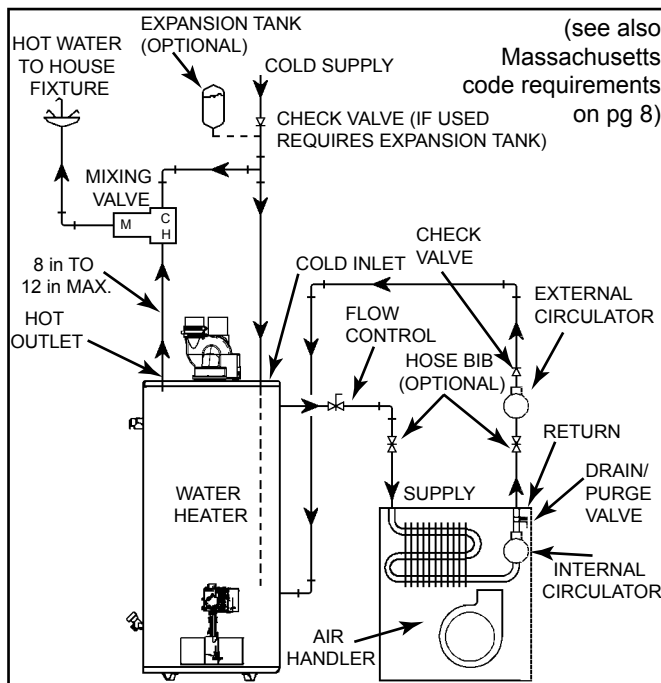

Figure 22
8. “Combo” Heating Systems require higher water temperatures than other applications. When the system is used to supply water for Combo Heating applications, a means, such as mixing valve, must be installed to temper the water in order to reduce scald hazard potential (see Figures 22 & 23).
- A. A fan coil/air handler (Figure 22).
Figure 22 shows typical attachment of water piping to the water heater. The water heater is equipped with 3/4" NPT water connections.